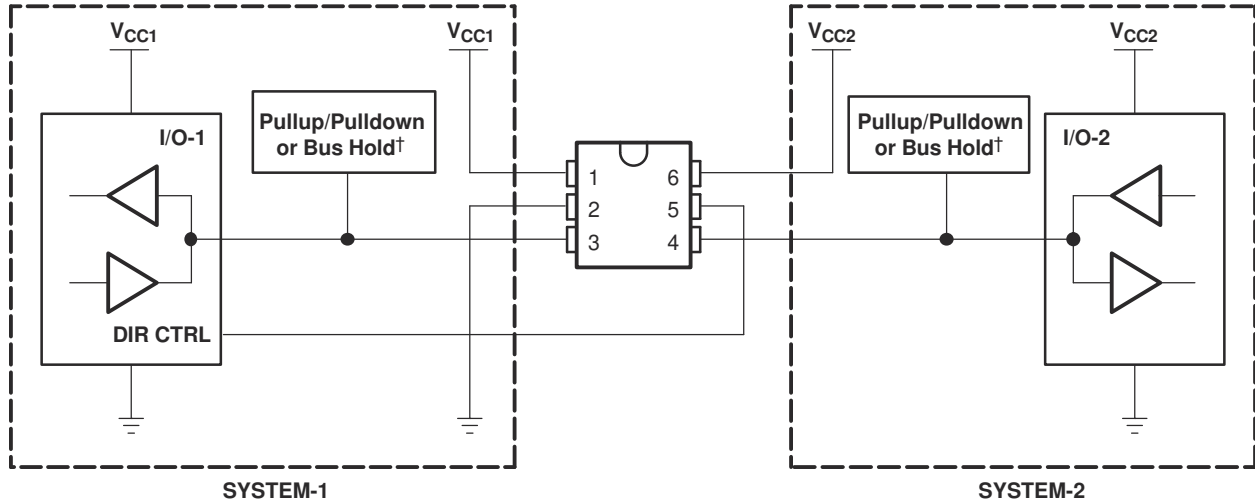

图 9-3. Bidirectional Logic Level-Shifting Application
图 9-3 shows the SN74AXC1T45 being used in a bidirectional logic level-shifting application. Because the SN74AXC1T45 does not have an output-enable (OE) pin, the system designer should take precautions to avoid bus contention between SYSTEM-1 and SYSTEM-2 when changing directions.